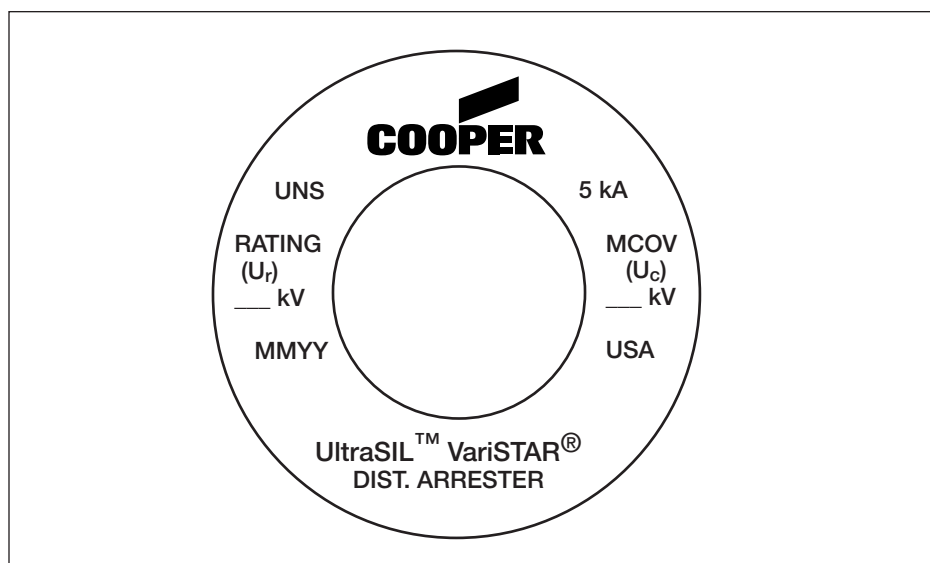

Figure 13.
**14 = Nameplate Information, See Figures 13 and 14**